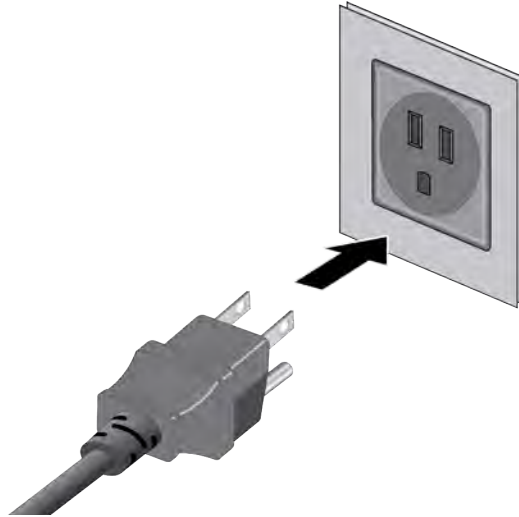

Figure 55. Plugging in the AC Power Cord to an AC Source
2. Connect the power cord to an appropriate AC power source. Refer to Figure 55.